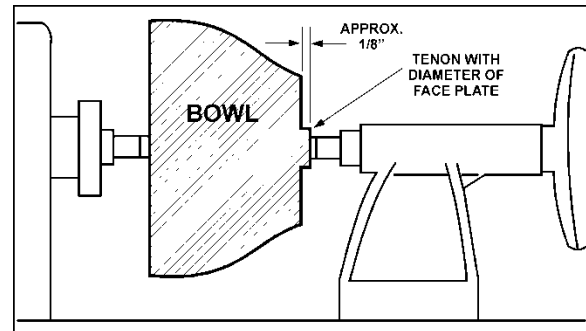

Figure 22
3. Slip the spur center into the headstock taper and bring the tailstock, with a live center, into position. Lock the tailstock to the bed and advance the spindle in order to seat the cup center into the workpiece, see Figure 22. Tighten the quill lock.
8. As the bowl takes shape, work on the bottom (tailstock end) to accommodate attaching a faceplate, see Figure 22.
9. Turn a short tenon (about 1/8" long) the size of the hole in the faceplate, see Figure 22. This will allow centering the workpiece when the faceplate is attached. **Note:** If you plan to use a chuck, turn a tenon of appropriate length and diameter to fit your chuck.